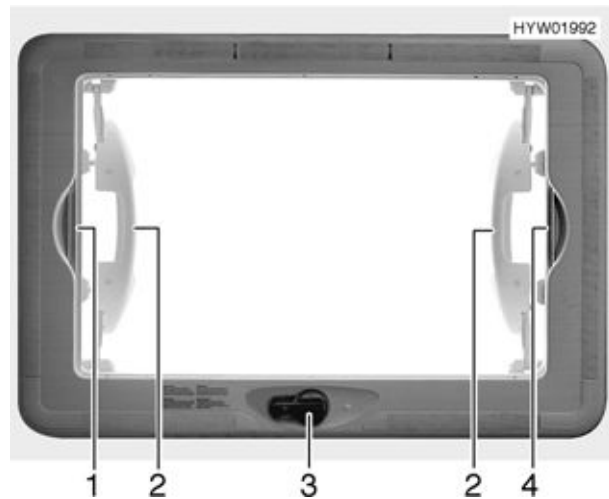

Fig. 54 Lift-tilt skylight
- Rotate the manual crank (Fig. 54,3) until a resistance can be felt (max. opening angle 70°).
- ▷ The lift-tilt skylight is only to be operated with both hands on the handles (Fig. 54,2).
- Pull Roman shade at the handle (Fig. 54,1) to the opposite handle of the insect screen (Fig. 54,4) and allow to engage.
- Unhook handle of the Roman shade (Fig. 54,1).
- Pull insect screen at the handle (Fig. 54,4) to the opposite handle of the Roman shade (Fig. 54,1) and allow to engage.
- Unhook insect screen at the handle of the Roman shade (Fig. 54,1).
- Use handle (Fig. 54,4) to slowly return the insect screen.